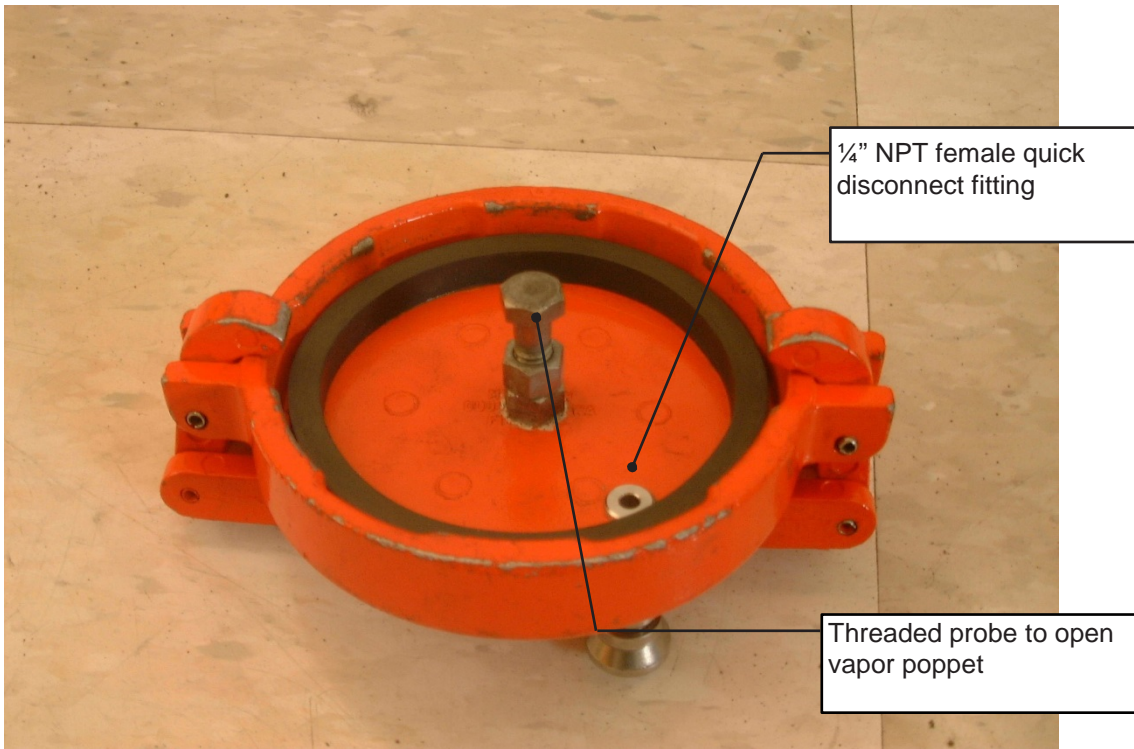

FIGURE 10-1b
5.1.3 Use "Tygon tubing" or equivalent to connect the manometer to the dust cap (Figure 10-1b). Install a male quick connect fitting (Swagelok part number SS-QC4-5-400 or equivalent can be used) on one end of a ferrule stainless steel tube (or equivalent material). Connect one end of the "Tygon tubing" to the stainless steel tube and connect the other end to the digital manometer (Figure 10-1b).
- 9.1 Attach the dust cap or vapor coupler test assembly to the vapor adaptor (Figure 10-1b).